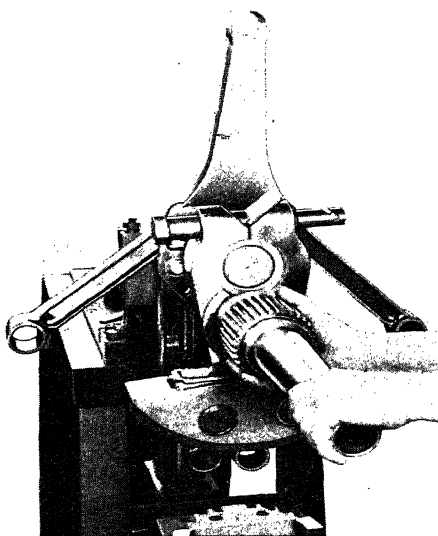
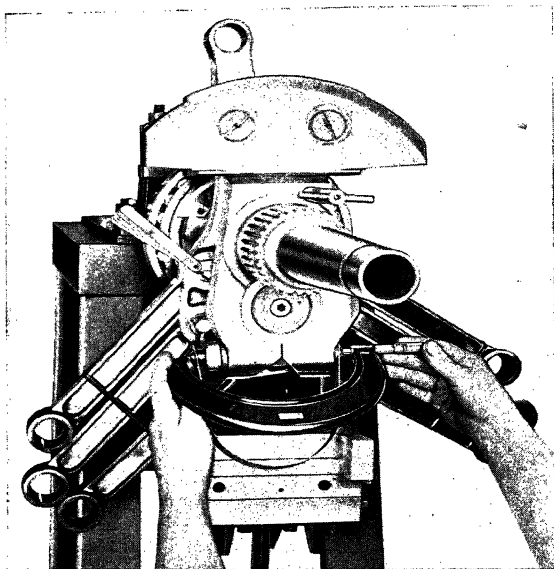
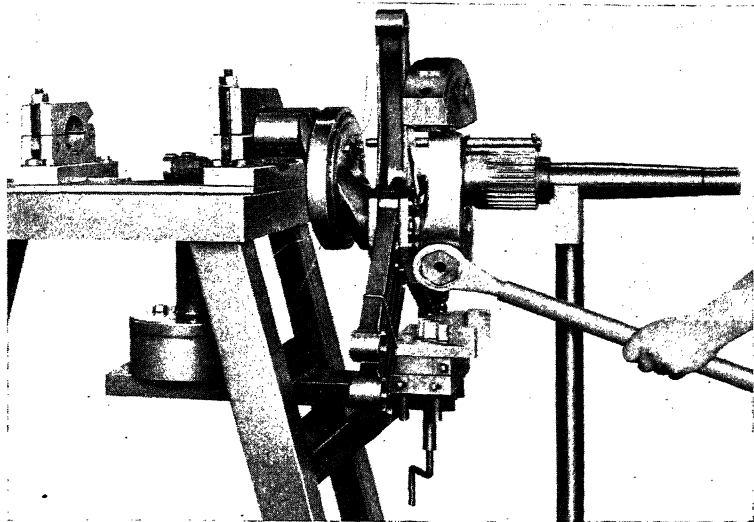

FIG. 38.—Putting the front section of the crankshaft in place.
FIG. 39.—Measuring the stretch of a bolt due to tightening.
FIG. 40.—Tightening the clamping bolt.
**Reassembly Crankshaft.**—The front section of the crankshaft is installed in the fixture shown in Fig. 38. Clean the bore of the clamp joint and spread just enough to let the crankpin slide in easily. In clamping the pin in place it is necessary to measure the stretch of the cap screw. Put the cap screw in place but do not tighten it. Measure it (Fig. 39) with a micrometer over two balls held against the cap screw center by a spring. Apply the wrench (Fig. 40) and note the amount of stretch due to tightening. The desired stretch is found in Table 1. It is 0.008 to 0.0085 in.